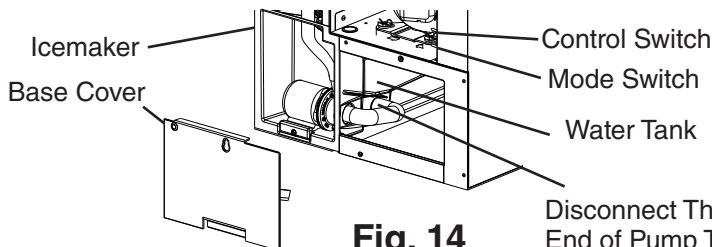

Fig. 14
- 1) Make sure the power supply is off. Remove the front, top, and right side panels to allow access to the control board. Also, remove the base cover. See Fig. 14. Note: If front access to the control box is required, remove the control box mounting screws, then slide the control box forward and rotate the control box for access. See Fig. 15.